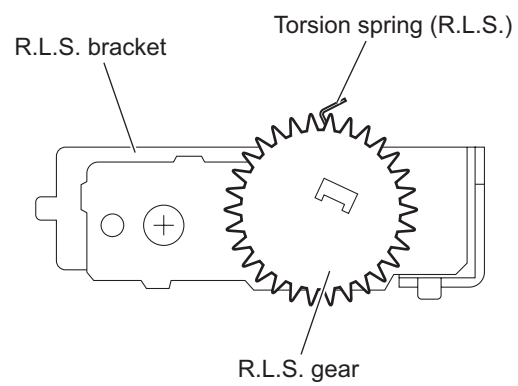

Fig.24
- (15) From the front side of the R.L.S. bracket, remove the R.L.S. gear toward this side. (See Fig.24.)
When attaching the R.L.S. gear, attach the torsion spring (R.L.S.) with it as before. (See Fig.24.)